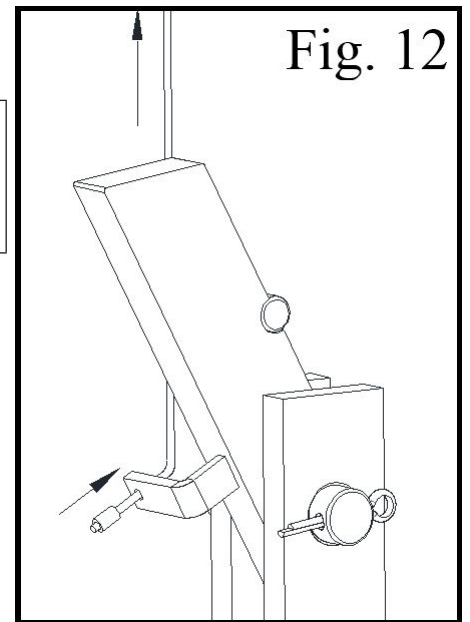

Fig. 12
- Install the safety rack to the off-side column (ref. fig. 12);